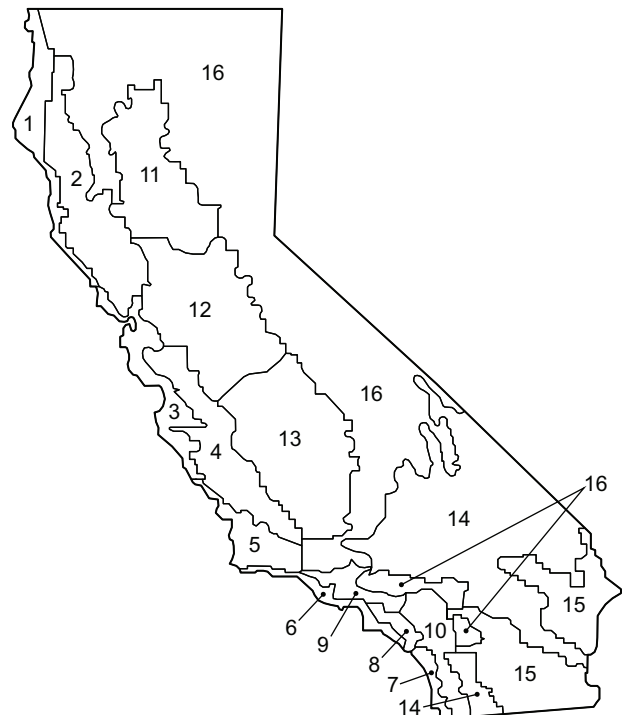

Fig. 68 — California Title 24 Zones
b. See Fig. 68 for map of California Title 24 zones.